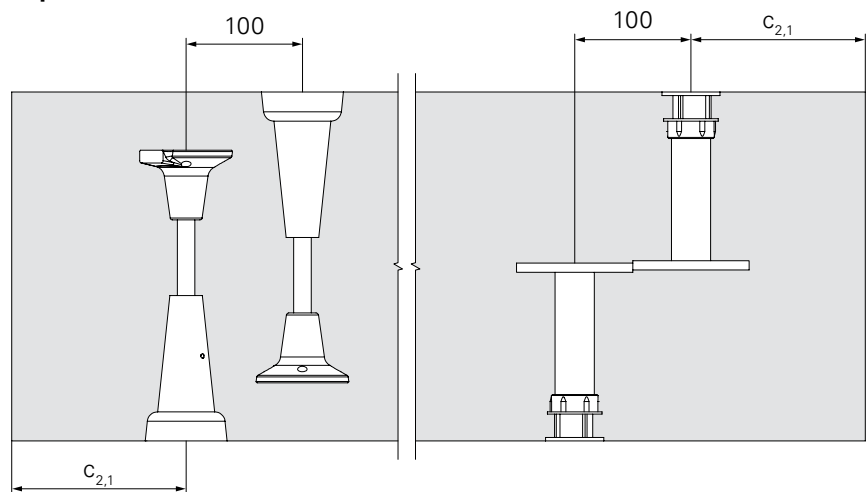

Fig. A2.02
- If  $h_1 + h_2 > D$ : ensure that the anchoring has an offset arrangement. (Fig. A2.02 + A2.03)